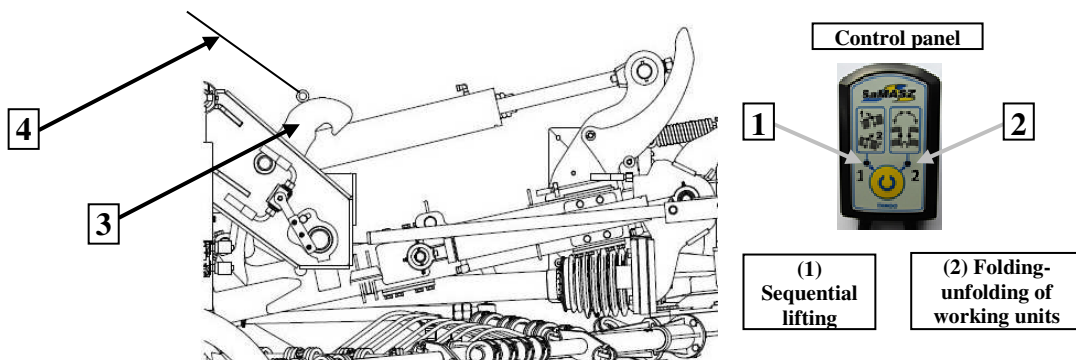
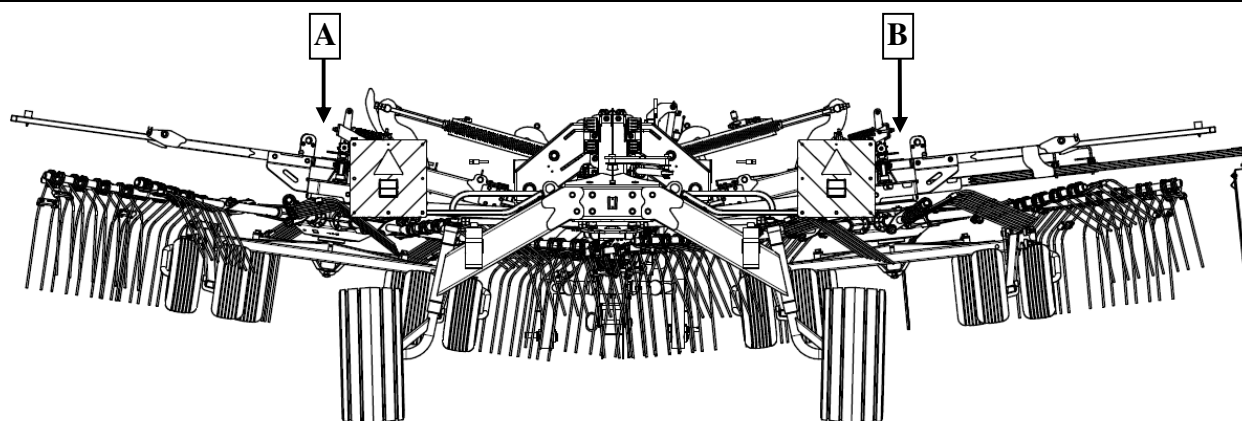

Fig. 33. Preparing rake for headlands
Fig. 34. Rake in position for headlands
When lifting arms with working assemblies (A) and (B) the pawl (3) will be locked automatically in position for headlands (**Fig. 34**). To lift working units to transport position, on the control panel switch to lifting function (S), and then in the initial stage of lifting the working units, pull the pawl by means of string (4) (**Fig. 33**).